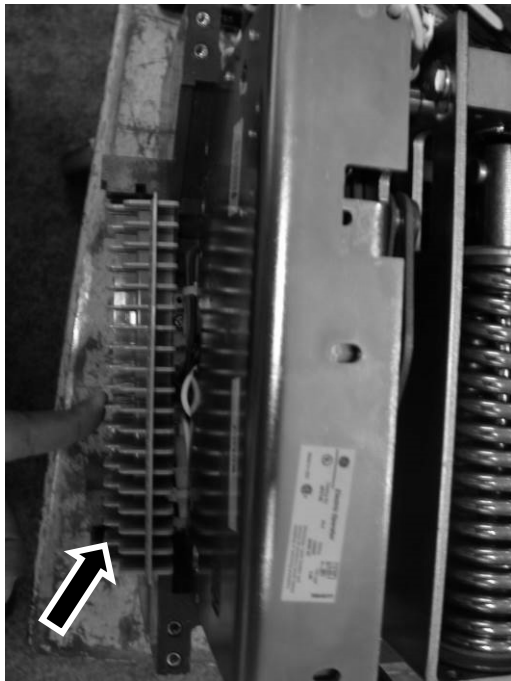
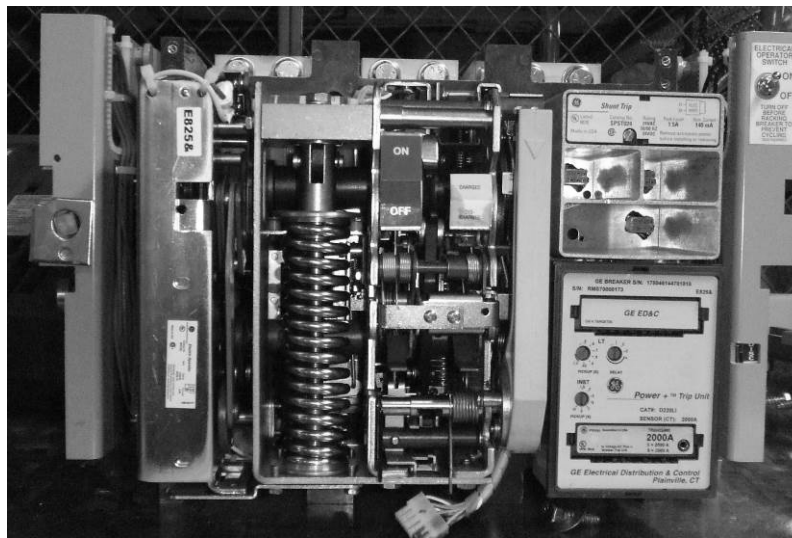
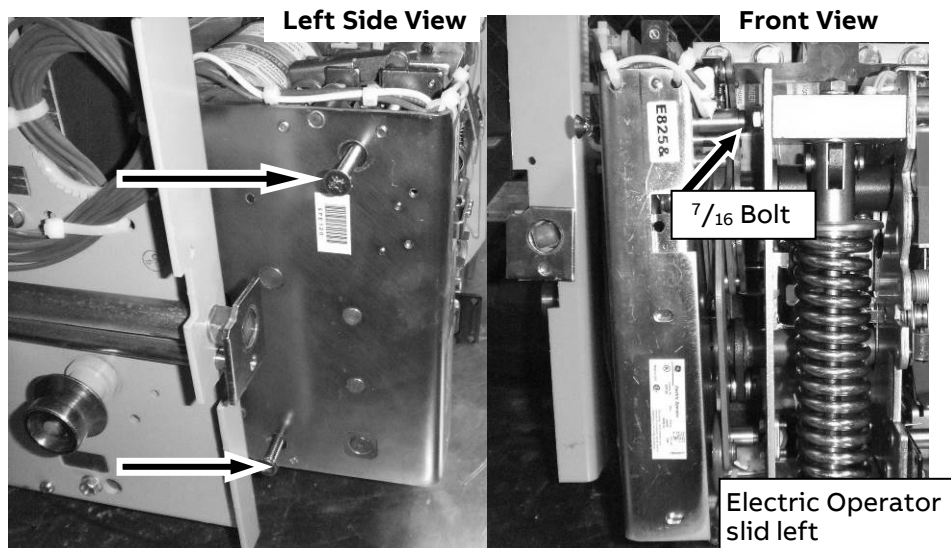
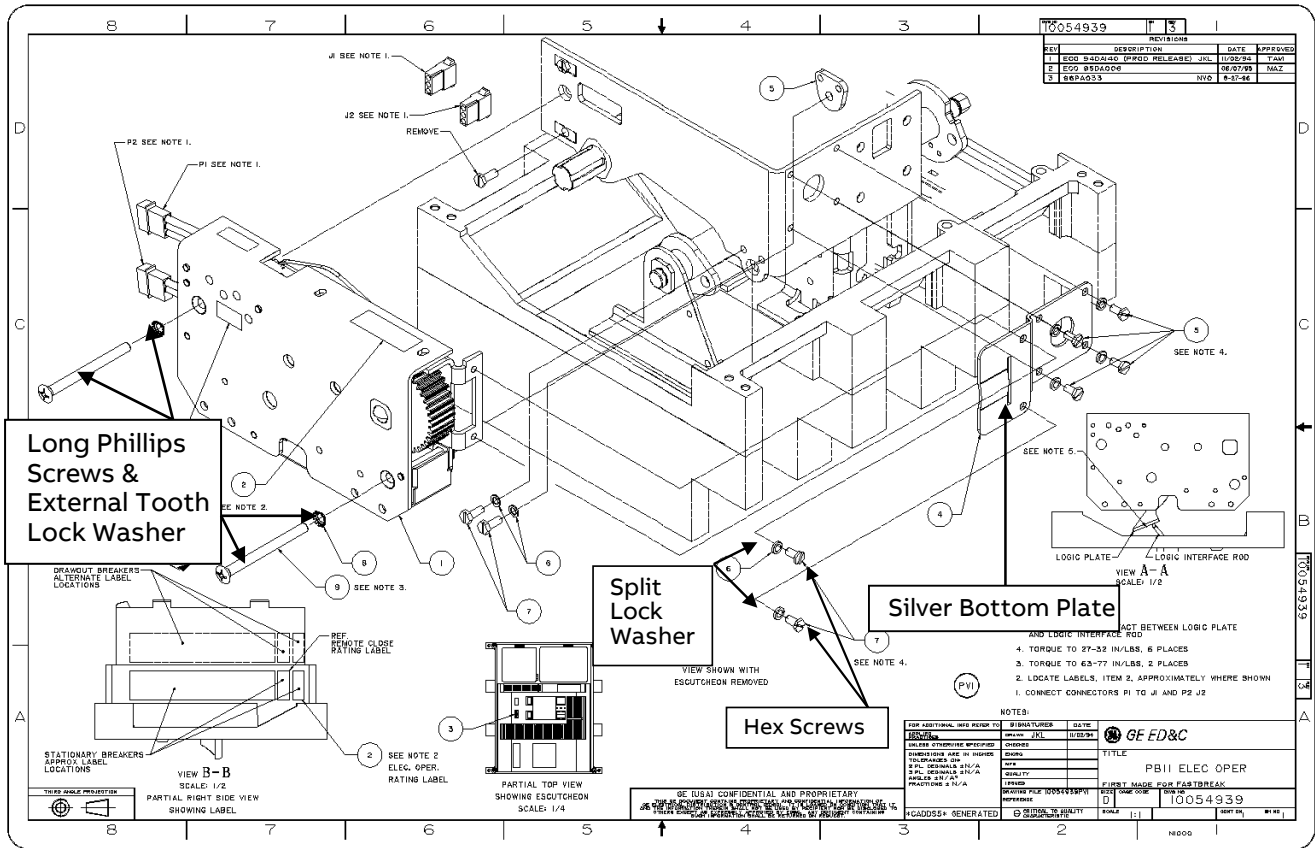

Figure 9: Secondary Connections Piece to be Removed Before Electric Operator
Figure 21: Draw-out Breaker with Electric Operator
Figure 22: Electric Operator Slid Left on Draw-out Breaker after long Phillips screws unscrewed
Figure 23: Electric Operator Diagram
9. If the Electric Operator is installed on a stationary breaker it must be detached before the Stop Block is replaced. First remove the gray plastic secondary connection piece from the left side of the breaker (Figure 9). Remove the two long Phillips screws and external tooth lock washers from the left side of the Electric Operator (Figure 22 & Figure 23) with a #3 Phillips screwdriver.
10. If working on the stationary model, support the Electric Operator with your hand so it does not fall following the next step. Remove the two smaller hex screws and split lock washers from the silver bottom plate that secures the Electric Operator to the assembly walls (Figure 23). The Electric Operator may now be set-aside without disconnecting the electric snap connections. The Draw-out model only requires that the electric operator be slid to the left slightly allowing for a $\frac{7}{16}$ wrench to access the bolt on the side of the assembly wall (Figure 21 & Figure 22).
21. Replace the Electric Operator if previously removed by securing with the long screws on the left side of the spring assembly wall and the short hex screws on the bottom of the spring assembly (Figure 23).